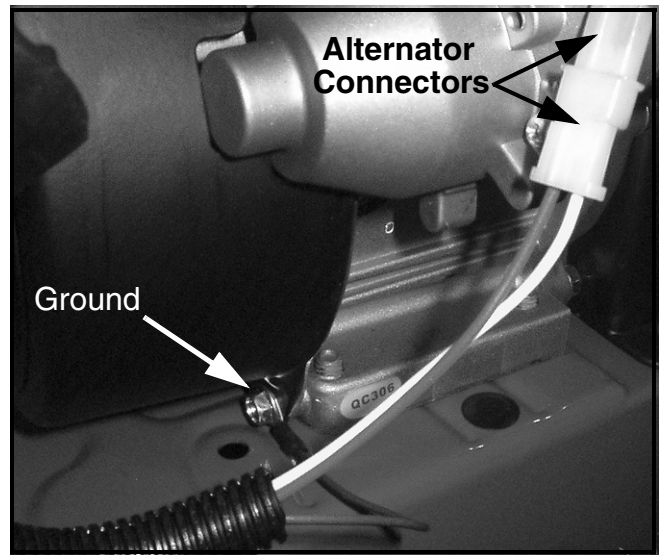
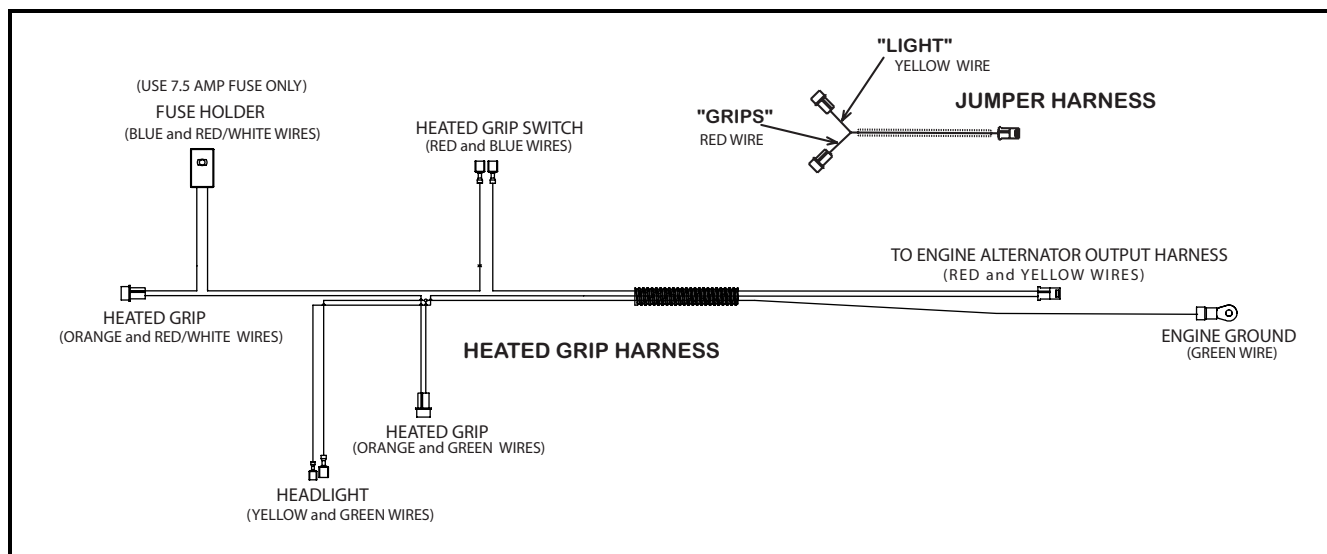

FIGURE 3
FIGURE 4
8. Familiarize yourself with the style of connectors on the heater grips, engine alternator output harness, headlight, the new Rocker Switch, Item 4, and the new Harness, Item 3. See Figure 4.
9. Connect the new Heated Grip Harness, Item 3, alternator connector to the mating connector from the engine's alternator output harness. Attach the green ground wire to an accessible engine block screw on the right hand side of the engine block. See Figure 3 for typical ground connection point at starter housing attaching screw.
27. Connect the new Heated Grip Harness, Item 3, alternator connector to the mating connector of the Jumper Harness with the red wire. See Figure 4. Attach the green ground wire to an accessible engine block screw on the right hand side of the engine block. See Figure 3 for typical ground connection point at starter housing attaching screw.
32. When installing Light Kit 490-241-0009, the white 2 pin connector from the lamp housing plugs into the Jumper Harness connector with the yellow wire. See Figure 4.